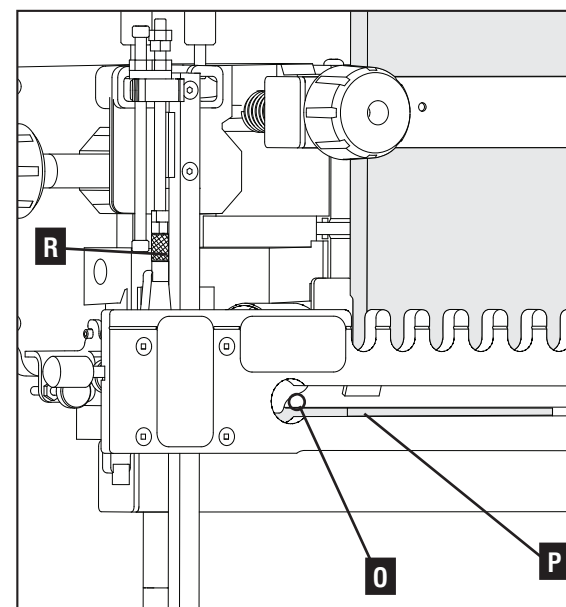
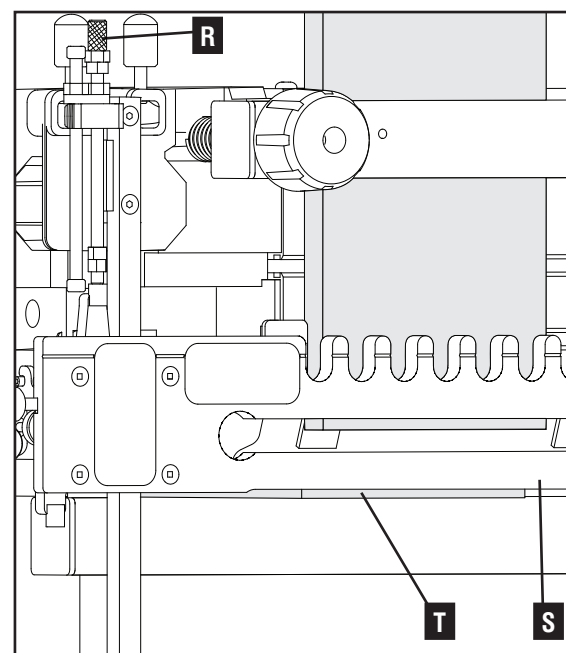

Fig. H12
Fig. H14
12. Place router into the template's center slot (O) Fig. H12 to the left of the tenon board (P). First make a shallow climb cut from left to right and then complete the cut along the front edge of the slot (P) from right to left.
14. Remove both knurled spacers (one shown at (R) Fig. H12 and H13) from both stops and replace them on back of each post for storage (as shown at (R) Fig. H14).
16. Place router on edge of template (S) Fig. H14 and make cut on front edge of tenon board (T) from right to left and then clean the cut from left to right.